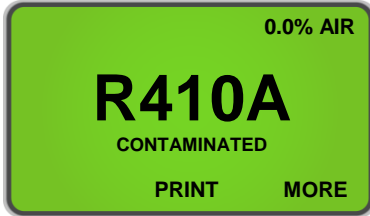
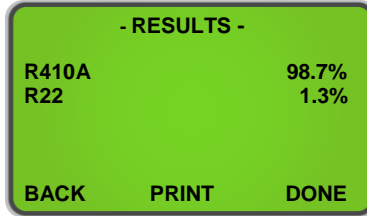
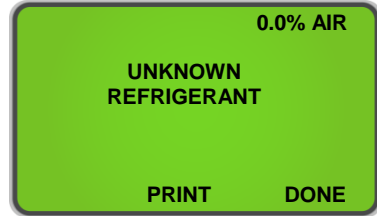

Figure 11
Figure 12
Figure 13
The *Ultima ID Pro*TM includes the ability to detect and analyze the composition of many common R400 Series refrigerants in addition to **R22, R32, R134a** and **Hydrocarbons (HC)**. In the event that the *Ultima ID Pro*TM determines that the primary refrigerant in the system or cylinder is one of the measured refrigerants, the results will display as follows in **(Figure 11)**. Pressing the 'MORE' button will display the detail screen shown in **(Figure 12)**. If the blend or refrigerant mixture is not recognized, the screen shown in **(Figure 13)** will be displayed. Refer to section **2.10 Print the Test Results & Channel Data** to print.